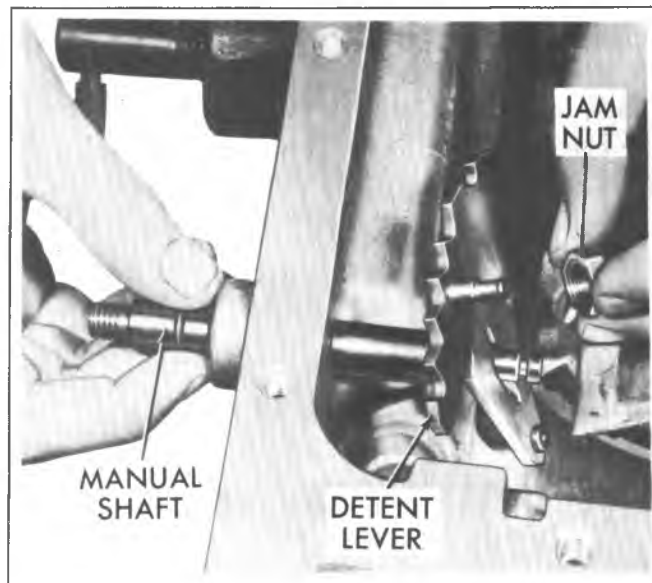

Fig. 7A-165C--Installing Detent Lever and Jam Nut to Manual Shaft
- e. Install detent jam nut on manual shaft, and tighten to 18 ft. lbs. (Fig. 7A-165C).